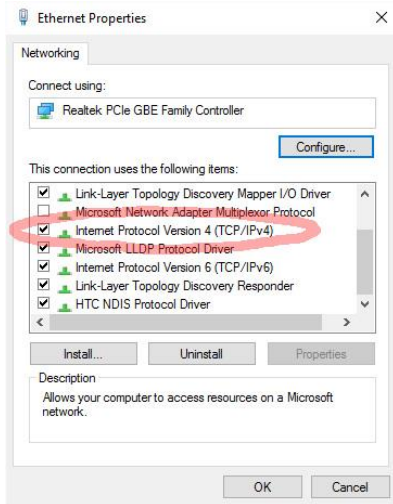

Figure 4-4 - Ethernet Properties window. Choose the IPv4 row.
- In the contextual menu that appears when you right click on Ethernet choose **Properties**. The Ethernet Properties window will pop up as shown in Figure 4-4.